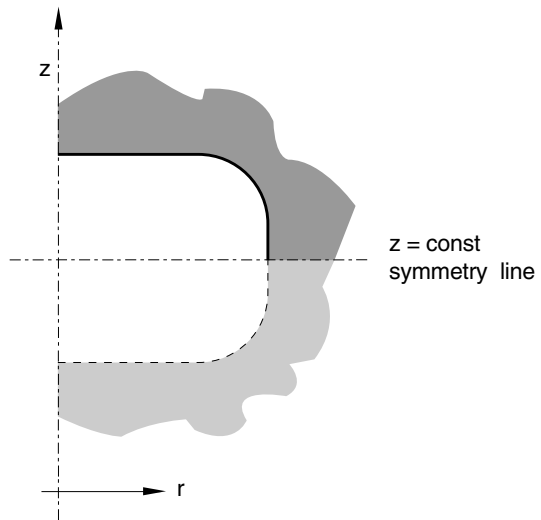

Figure 3: *REFLECTION, TYPE=ZCONST option.
1. z -coordinate of symmetry line (see Figure 3).